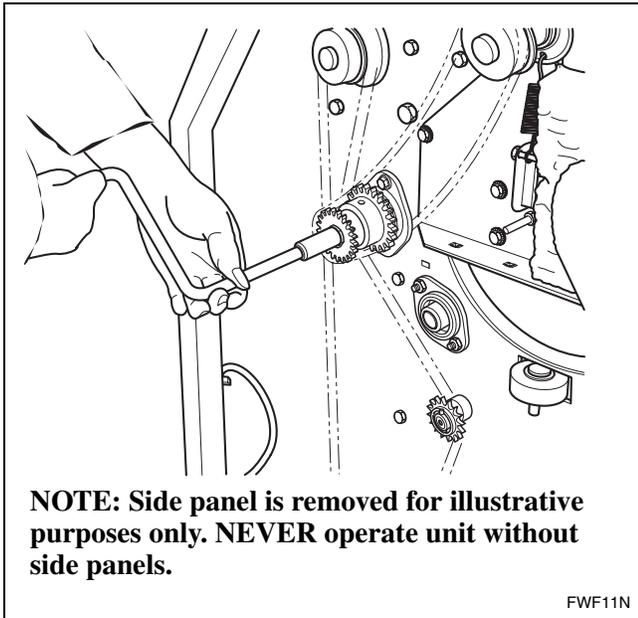

Figure 11
2. Turn the crank clockwise to rotate the cylinder. Refer to *Figure 11*.